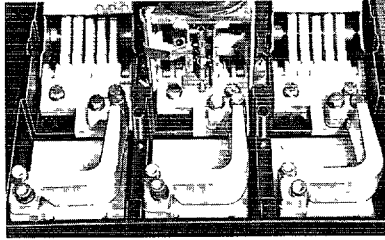

Figure 2. Straps in position
4. Position current carrying connection straps, as shown in Figure 2, and fasten down, using one flat and one lockwasher with each bolt. Use hex bolts at top of strap.